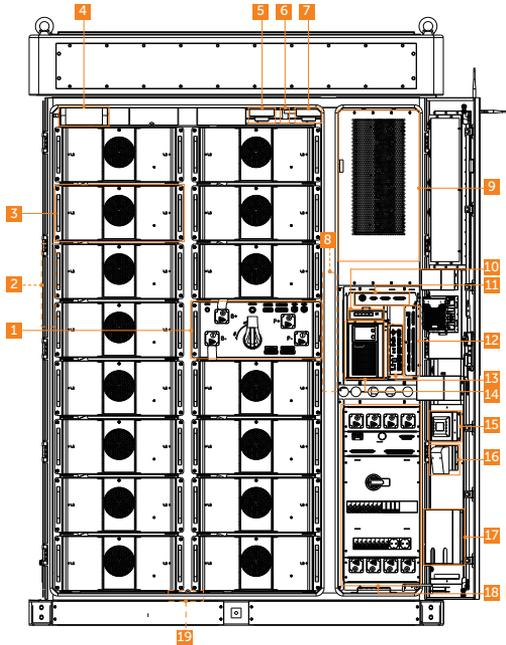

Figure 2-4 Parts description (in the opened state)
- The mark "*" indicates that parts in the front view (Figure 2-4) cannot be fully seen.